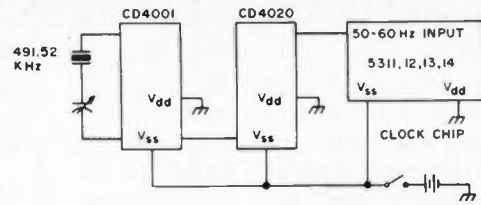

Fig. 1. Crystal oscillator, 13 stage binary divider.
used in a car, boat or any portable requirement. It is the least desirable from the standpoint of cost and complexity. A partial diagram of such an arrangement using the 53XX series of clock chips is shown in Fig. 1. (2) is a relatively uncomplicated arrangement which prevents a loss of memory and, depending upon the length of time that the ac power is off, will provide good service. The clock is not triggered during the time the power is off and will show a loss of time when the power returns. Also, during the power off time, the display will not be illuminated. Since the displays draw the majority of power, only the clock chip is battery powered during the ac power failure. Fig. 2 shows a partial diagram of the battery powered arrangement. Either dry batteries or rechargeable batteries can be used and are depicted in Figs. 2(a) and 2(b) respectively. In effect, the battery "floats" across the